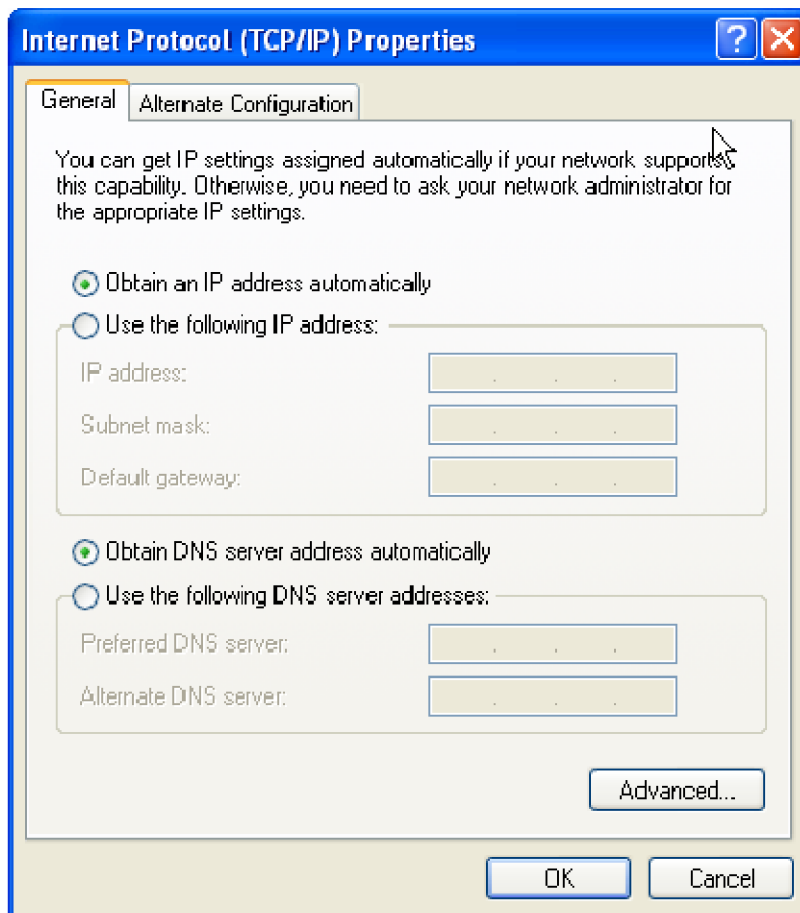

Figure 12: IP Properties dialog box
7. Scroll down the list and select **Internet Protocol (TCP/IP)**, and then click **Properties**. The Internet Protocol (TCP/IP) Properties dialog box appears. (See Figure 12.)